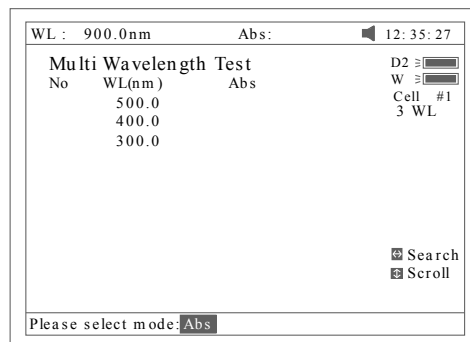

Fig 70
2. Press **[F2]** to select mode: T%, Abs (Fig 70).